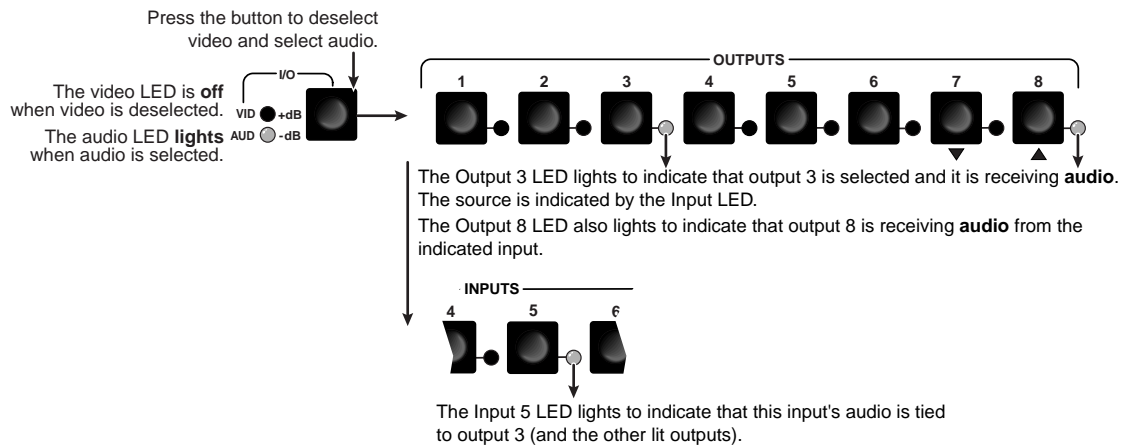

Figure 3-26 — Deselect video to view audio ties only
4. Press and release the I/O button (figure 3-26).